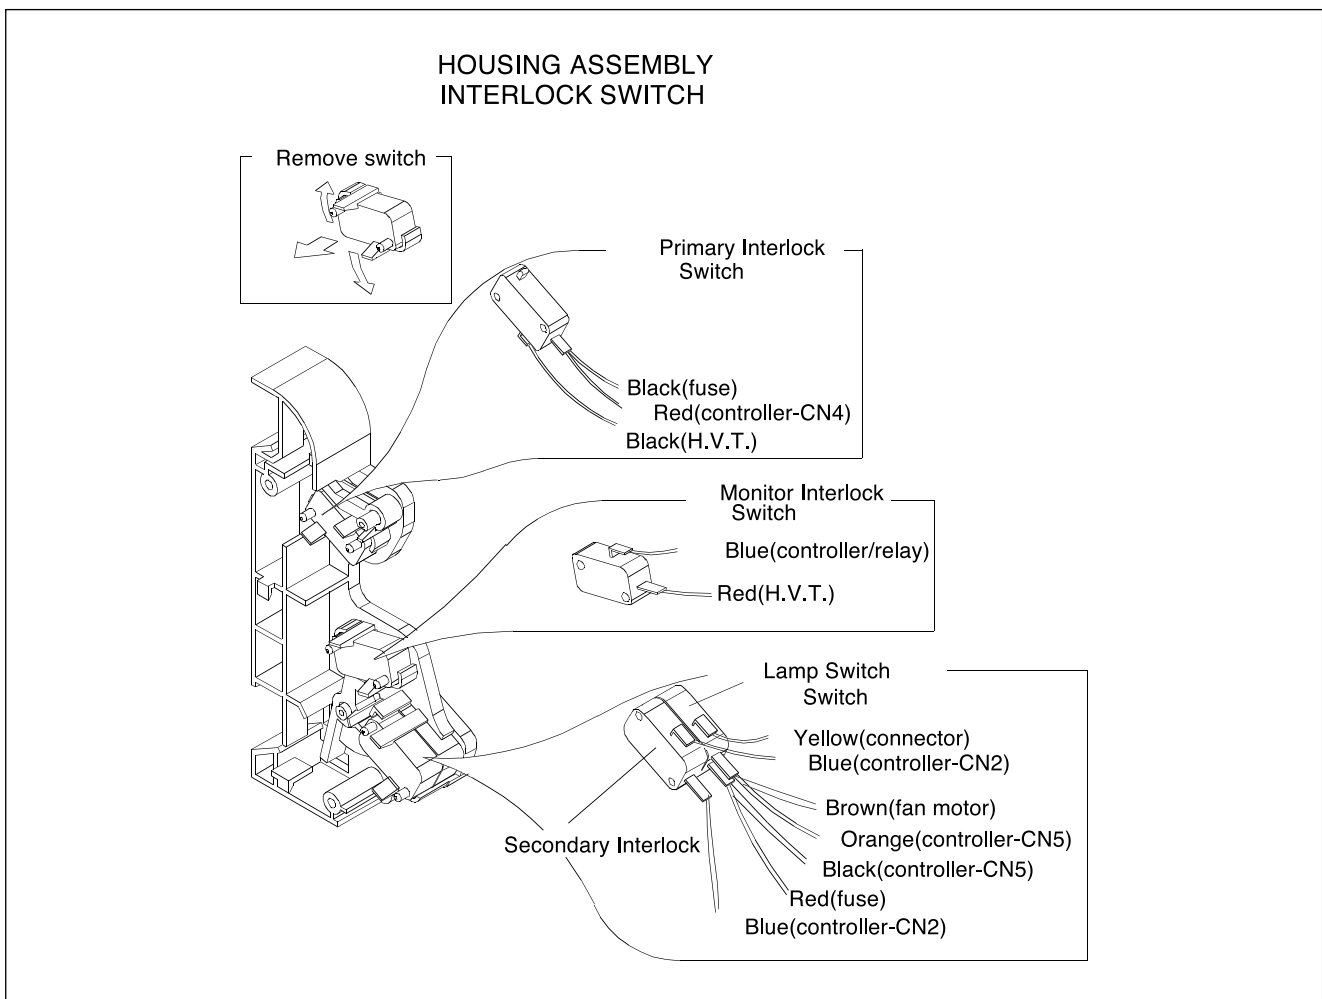

FIG. 7-1
7. Refer to REMOVE SWITCH in FIG. 7-1 for the interlock switches the interlock switch housing assembly, and remove the switch from the housing as shown.
8. One at a time, pull the wire connectors off the defective switch, and reconnect them to the same terminals on the replacement switch (See FIG. 7-1).
Refer to FIG. 7-1 for the following steps: